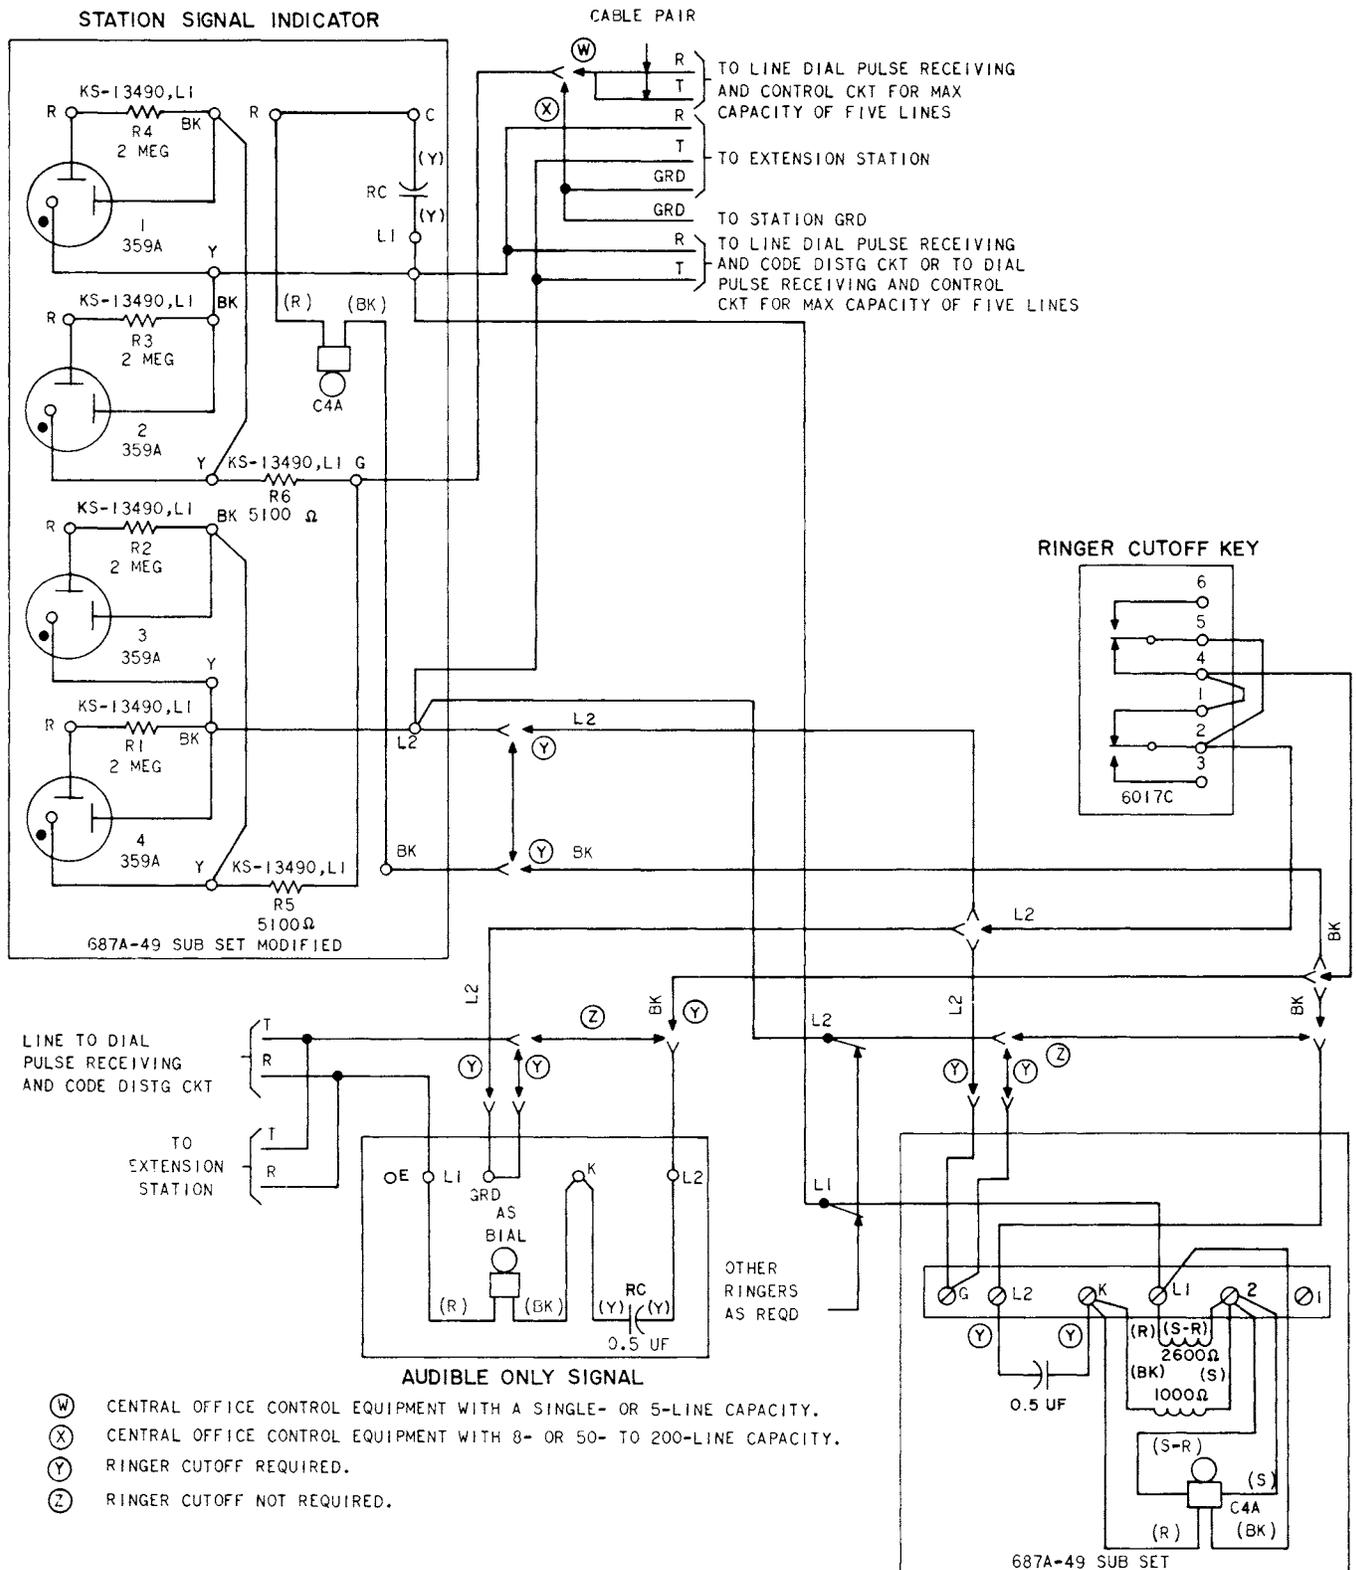

Fig. 2—Civil Defense Warning System, Connection
- Change subscriber set 531A-3 (MD) to 687A-49 in, Fig. 2
3.01 Connections for audible and visual signals are shown in Fig. 2.